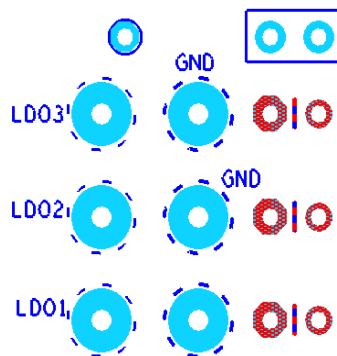

Figure 10. Locations for Measurement of LDO Regulator Output Voltages
- Figure 10 shows locations on the PCB where the LDO regulator output voltages can be measured accurately. For each LDO regulator, there is a pair of pads with holes to which wires, pins, or connectors can be soldered, or an oscilloscope probe can be connected. The larger of each pair of pads is the positive; the smaller pad is ground.